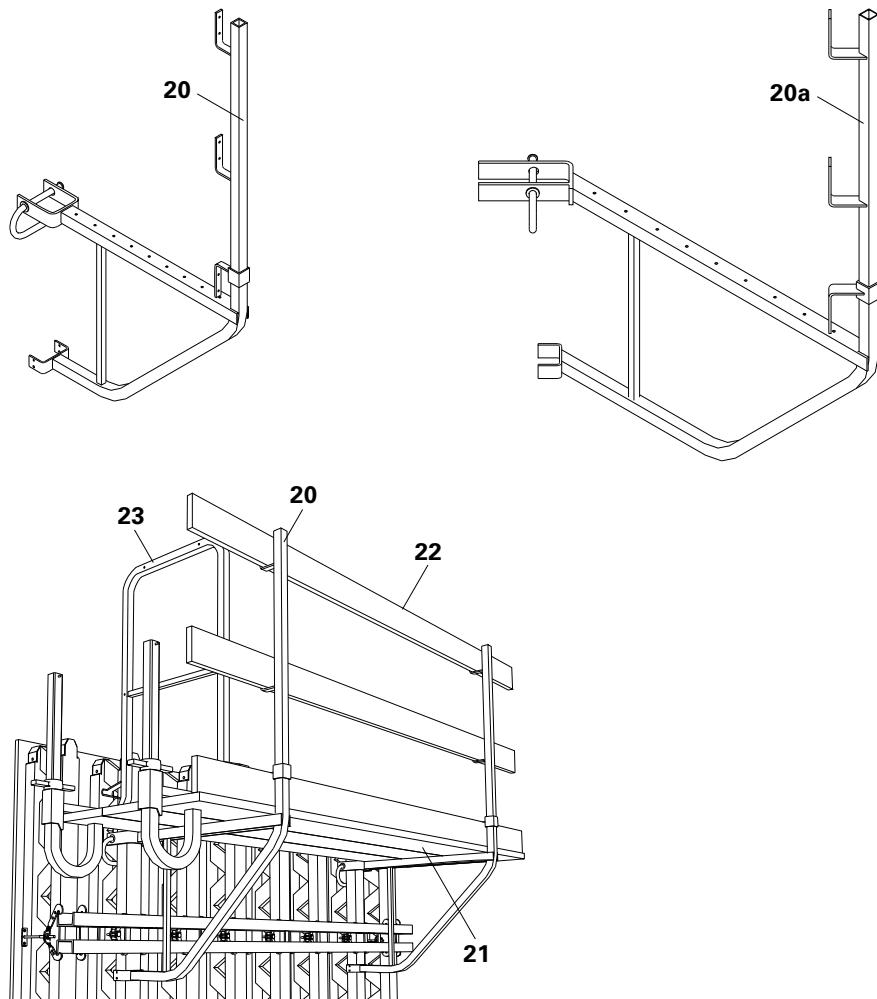

Fig. B2.01.1
- Scaffold Bracket GB 80 (20)
- planking (21)
- guardrails including boards (22)
- lateral guardrails (23).
- (Fig. B2.01.1 + B2.01.2)